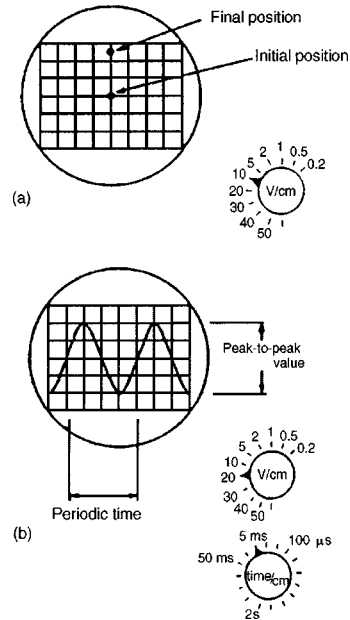

Figure 10.15
- With **direct voltage measurements**, only the Y amplifier 'volts/cm' switch on the oscilloscope is used. With no voltage applied to the Y plates the position of the spot trace on the screen is noted. When a direct voltage is applied to the Y plates the new position of the spot trace is an indication of the magnitude of the voltage. For example, in Fig. 10.15(a), with no voltage applied to the Y plates, the spot trace is in the centre of the screen (initial position) and then the spot trace moves 2.5 cm to the final position shown, on application of a d.c. voltage. With the 'volts/cm' switch on 10 volts/cm the magnitude of the direct voltage is $2.5 \text{ cm} \times 10 \text{ volts/cm}$, i.e. 25 volts.
- With **alternating voltage measurements**, let a sinusoidal waveform be displayed on an oscilloscope screen as shown in Fig. 10.15(b). If the time/cm switch is on, say, 5 ms/cm